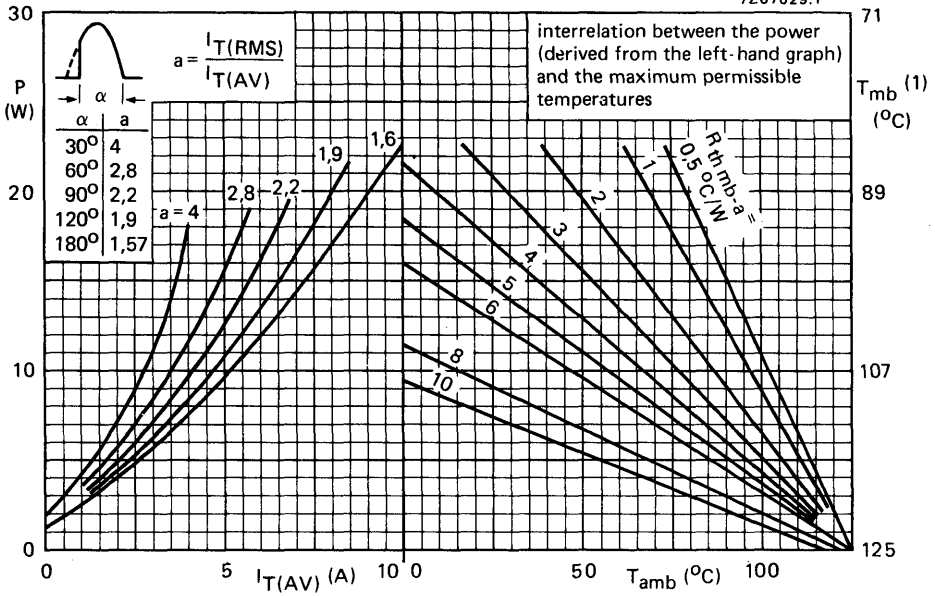

Fig. 3 (1) T_{mb} -scale is for comparison purposes only and is correct only for $R_{thmb-a} \leq 6 \text{ }^\circ\text{C/W}$.
* To ensure thermal stability: $R_{th j-a} < 4$ °C/W (d.c. blocking) or < 8 °C/W (a.c.). For smaller heatsinks T_{jmax} should be derated. For a.c. see Fig. 3.